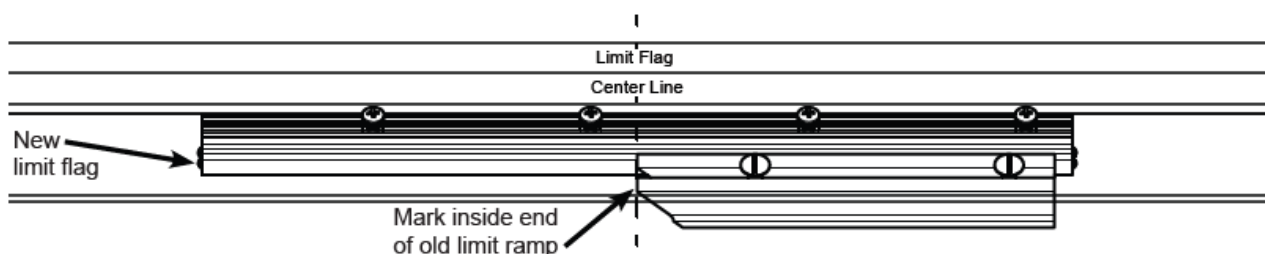

Figure 5. Align Slow Down Limit Flag
9. Install the inside end of the limit flag on the marked position (drill a new hole in the limit track to temporarily hold the limit flag in place). (SD50VF2/3) Install the middle of the 24-inch limit flag on the marked position (drill 2 holes in the limit track approximately 12 in apart to temporarily hold the limit flag in place) (Figure 5).